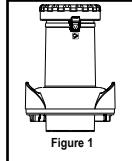

Figure 1
5. Once the juicer is on, place the fruits and vegetables on the food chute and use the food pusher slowly to drive them down. Place the food pusher in the food chute, making sure the tab "▼" in the food pusher aligns with the juicing indicator icon "⇨" (Figures 1 and 2). In order to extract the maximum amount of juice, it is important to push the food pusher slowly.